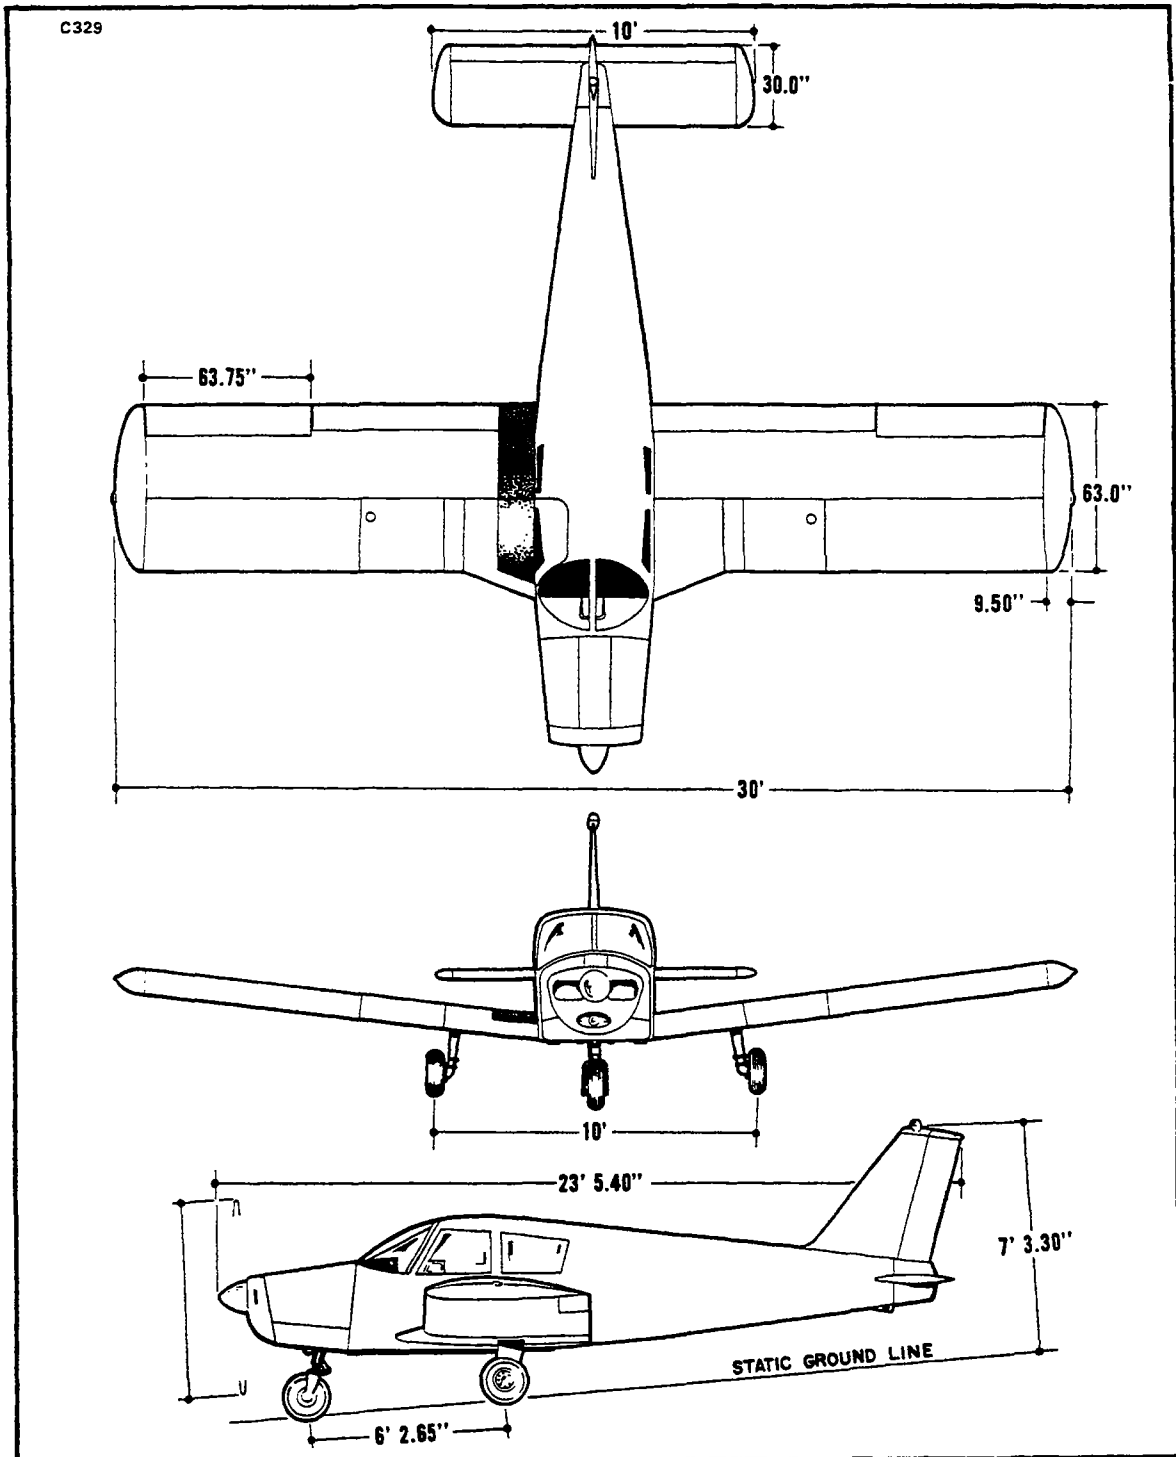

Figure 2-1. Three-View of Cherokee
- 2-2. **DIMENSIONS.** The principal airplane dimensions are shown in Figures 2-1 through 2-12 and are listed in Table II-I.